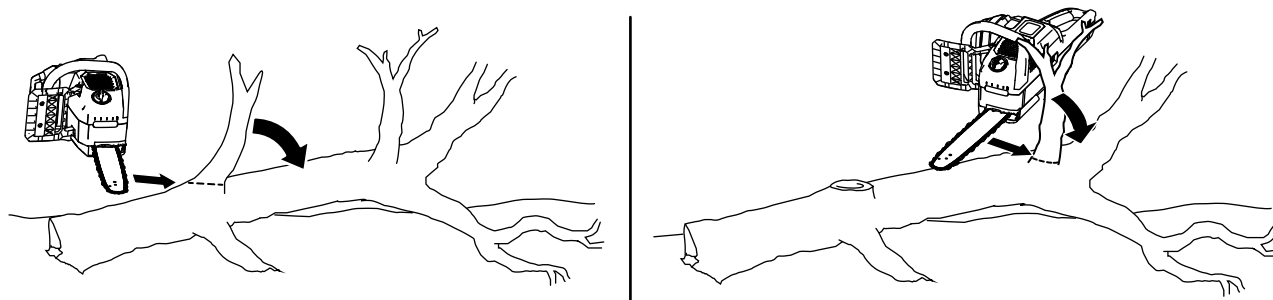

Figure 18
2. Moving from the base of the tree up, cut off the smaller limbs from the tree that are not supporting its weight off the ground (Figure 18).